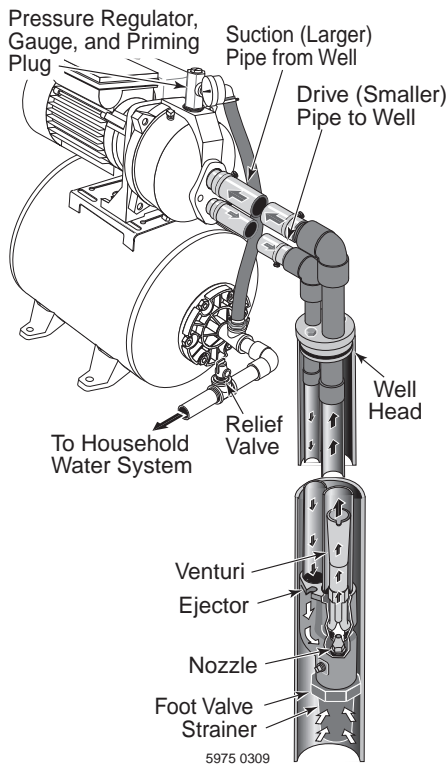

Figure 9: 4" and Larger Deep Well
4" Or Larger Well (Figure 9)
- Step 2. Assemble the ejector kit. See Figure 9. Follow the instructions included with the kit in order to match the nozzle and venturi to your well conditions.